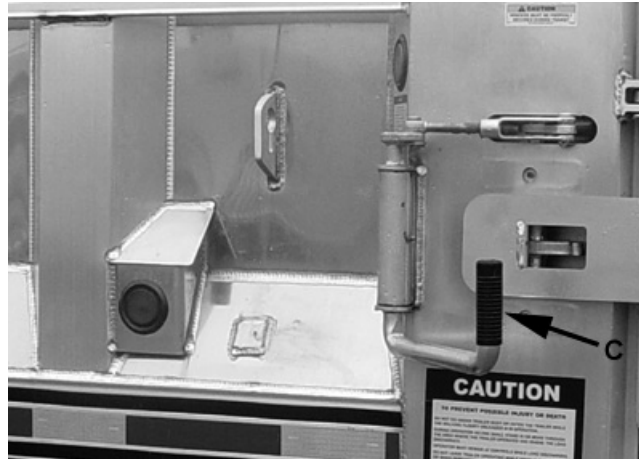

Figure 5-2 Release Tail Gate Latch
3. Pull out on latch (C) to release tail gate. See figure 5-2.